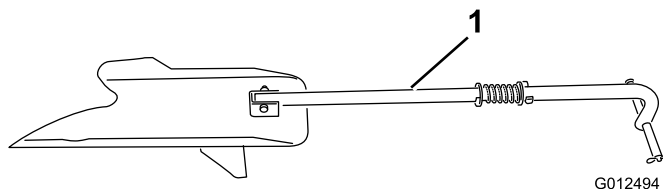
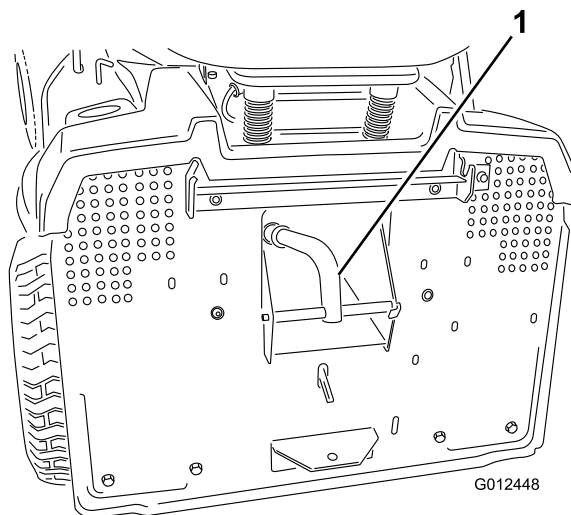

Figure 17
Figure 18
5. Insert the mulch plug (Figure 17) into the discharge opening at the rear of the machine, and hook it into the hole in the discharge chute (Figure 18).